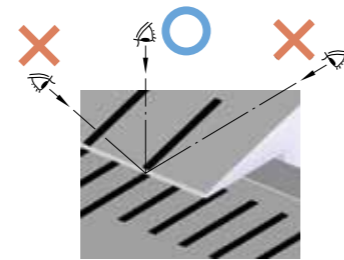

Fig. 6
2. Read the scale graduations from directly above to avoid parallax error. (Fig. 6)
3. Clamp the lug so that the spindle is square to the measuring face. (Fig. 6)